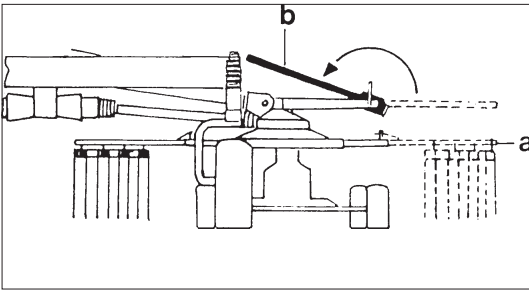

Fig. 3-15
2. Swivel the lateral protective yokes (b) inwards until the locking device engages (fig. 3-15).